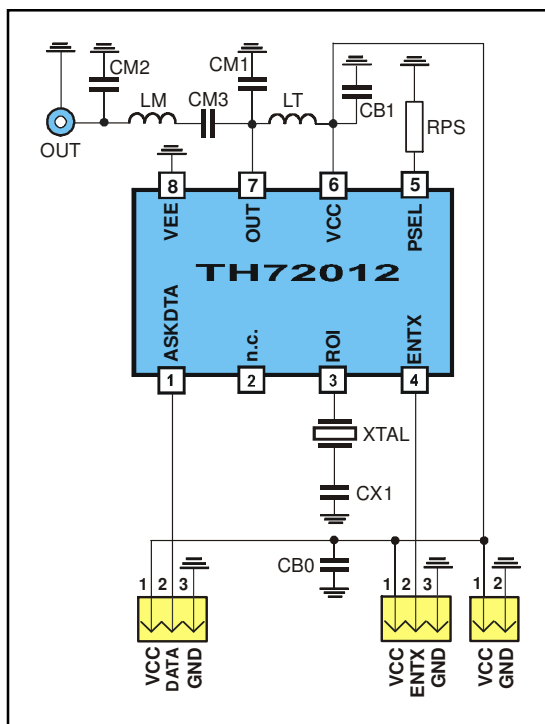

Fig. 17: Test circuit for ASK with 50  $\Omega$  matching network
- Data according to test circuit in Fig. 17
### 6.1 Test circuit component list to Fig. 17